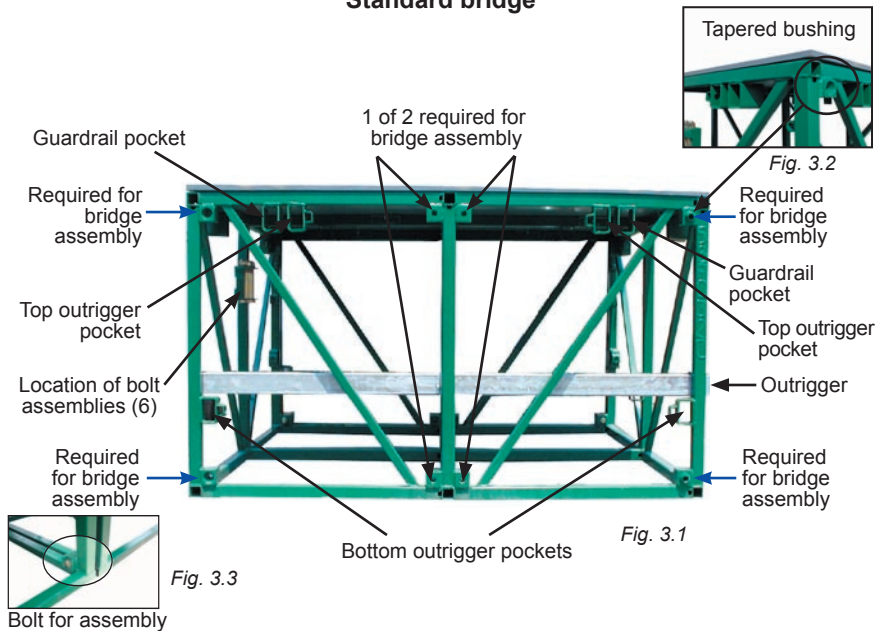

Fig. 3.1
- 1- Align both bridges using the tapered bushings (blue arrows, fig. 3.1).
- 2- Assemble both bridges together using one 5/8" x 5 1/2" (GR8) hex bolt, one 5/8" (GR8) lock washer and one 5/8" (GR8) nut in each of the four corner tapered bushings (fig. 3.1 and 3.2) and in one of the pairs of tapered bushings in the middle of the bridge (using both top and bottom bushings on the same side – left or right, fig. 3.1).